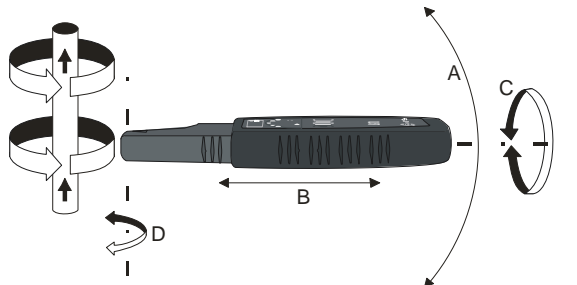

Fig.4 Magnetic field detection
Measurements can be performed in a closed circuit provided that a current flow can be induced in the circuit. This is the case in a healthy line with line's voltage exceeding 9V (the circuit is closed by a transformer) and also in a shorted line, using the „M+E" mode or and external power source. In all described situations the detection is done by evaluating the magnetic component of the field. Fig.4 illustrates the direction of the magnetic field lines around the cable in which the modulated current flows, and the placement of the receiver allowing for the highest possible intensity of the received signal.
- Move the receiver's antenna along the tested line (Fig.4) trying to follow the maximum strength of the signal. Press the **16**  button to increase the precision (section 7.1).